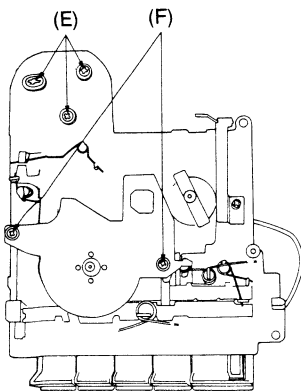

Fig. 5
(See Fig. 5)
- 1. Remove the two screws F×3 (2.6×10)mm and flywheel holding plate ass'y. (See Fig. 5)